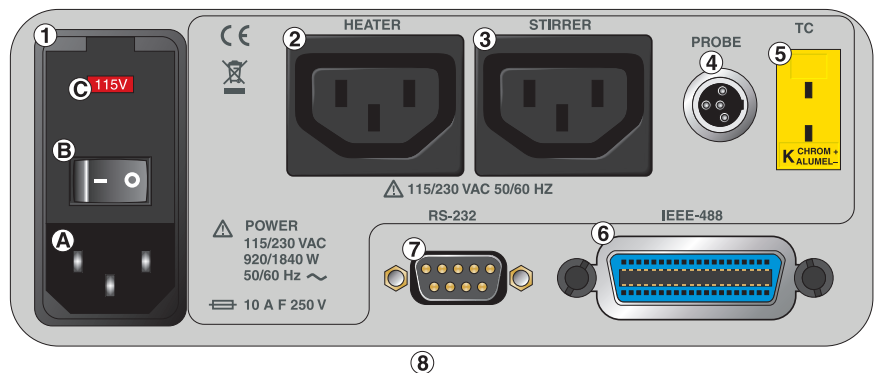

Figure 5 Back panel features
(3) The Control Indicator is a two color light emitting diode. This indicator lets the user visually see the ratio of heating to cooling. When the indicator is red the heater is on, and when it is green the heater is off and the system is cooling.
The following features are found on the rear panel of the controller: (1) power entry module, (2) the solid state relay, (3) the heater power connector, (4) the stirrer power connector, (5) the control probe input connector, (6) the cutout thermocouple connector, (7) the optional IEEE-488 (GPIB) interface connector, (8) the RS-232 interface connector, and (9) the serial number label. (see Figure 5)
WARNING: The output voltage to the heater and stirrer sockets (Items 3 and 4 in Figure 5) is the same as the input voltage of the power entry module (Item 1 in Figure 5).
(C) The power entry module is provided with a dual voltage selector integrated into the fuse holder. The controller has been specially designed to allow either 115 or 230 VAC operation. The voltage indicator window notifies the user of the voltage selected. See Figure 5.